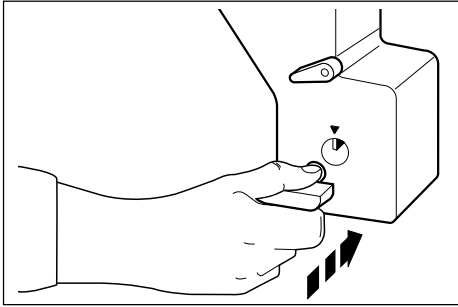

Fig. 29
**Warning:** When replacing the brew group, make sure the timing arrows are aligned; otherwise, re-align them by using the key (Fig. 29).